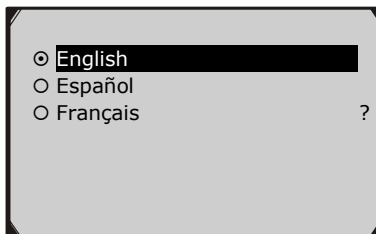

Figure 3.4
- 2) Use the **UP/DOWN** scroll button to select the desired language and press the **OK** button to save your selection and return to previous screen. We provide three language options currently. (Figure 3.4)